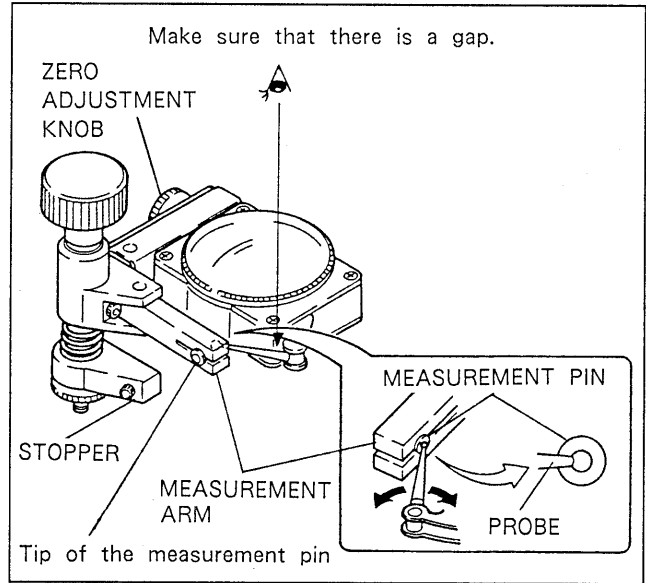

Fig. 5-2-12. Upper Drum Eccentricity Adjustment Gauge
2. Confirm that the dial gauge probe is positioned at the center of the measurement pin inserted into the measurement arm of the upper drum eccentricity adjustment gauge as shown in Fig. 5-2-12. If it is not at the center, adjust its position as shown in Fig. 5-2-12.